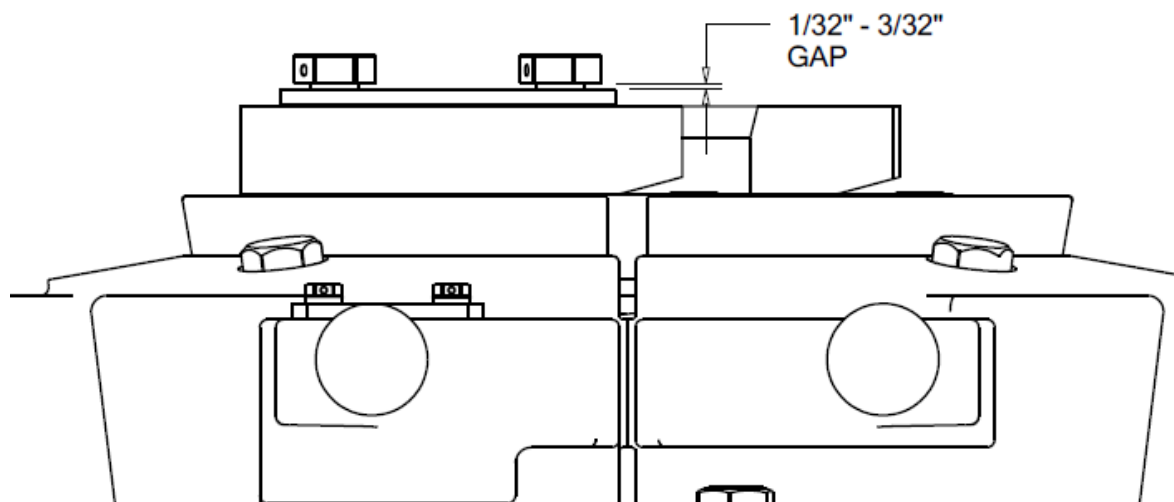

Figure 2
- ▶ Make sure the proper size of inserts are loaded into the slip segments, followed by the insert spacers, and then place an insert retainer plate into each slip. **(See figure 2)**
- ▶ Tighten all insert retainer screws. Then tighten the setting plate bolts to a maximum torque value of **20 ft-lb.** ensuring there is a **1/32” to 3/32” gap** between the underside of the bolt head and the washer or setting plate retainer. (See Figure 2)